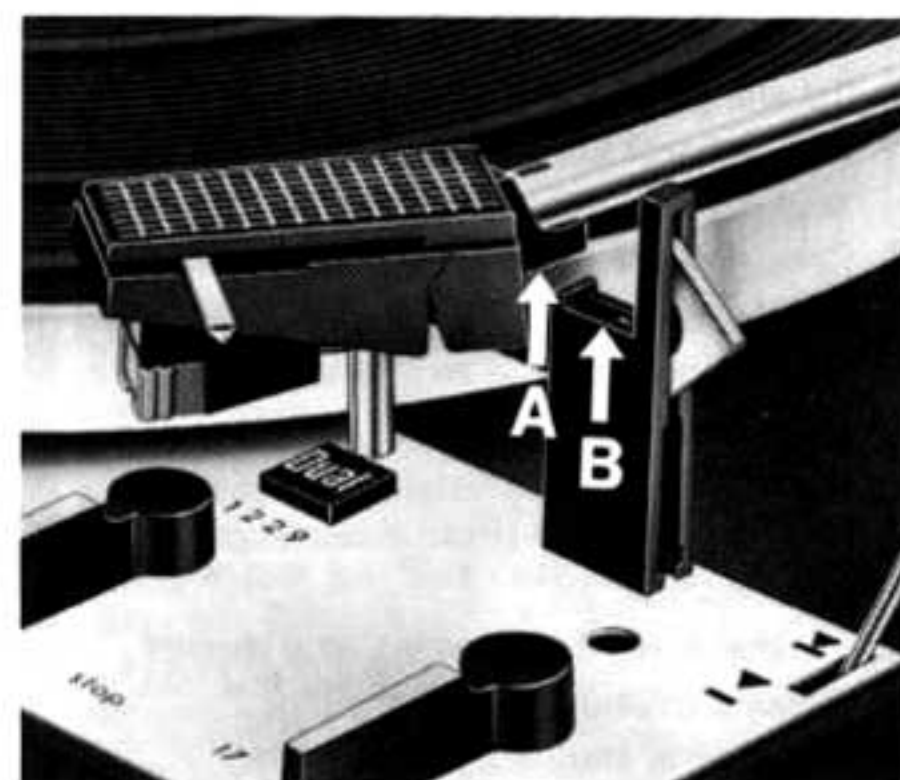

Fig. 15
3. If the tonearm does not come to rest horizontally, loosen setscrew (F) and slide the weight with its shaft until you achieve approximate balance. Then retighten the setscrew.
4. Now find the exact balance by turning the counterweight. The tonearm is exactly balanced when edge "A" on the side of the tonearm is at precisely the same height as edge "B" on the tonearm rest (Fig. 15), or when the tonearm, moved lightly up or down, returns by itself to a horizontal position.